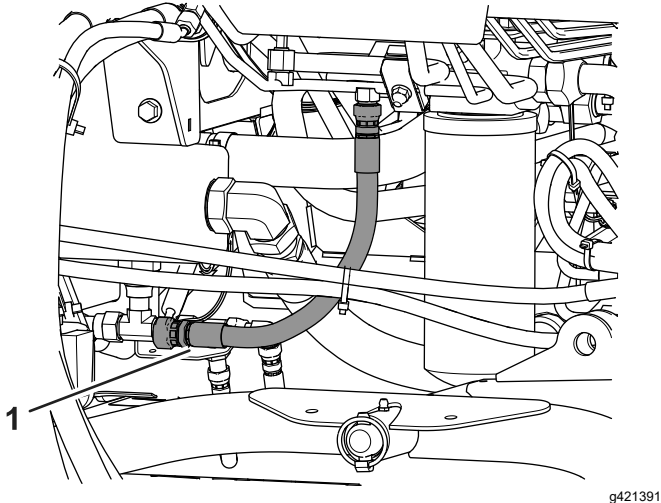

Figure 98
2. Place a large drain pan under the fitting secured to the bottom of the hydraulic-fluid reservoir (Figure 98).